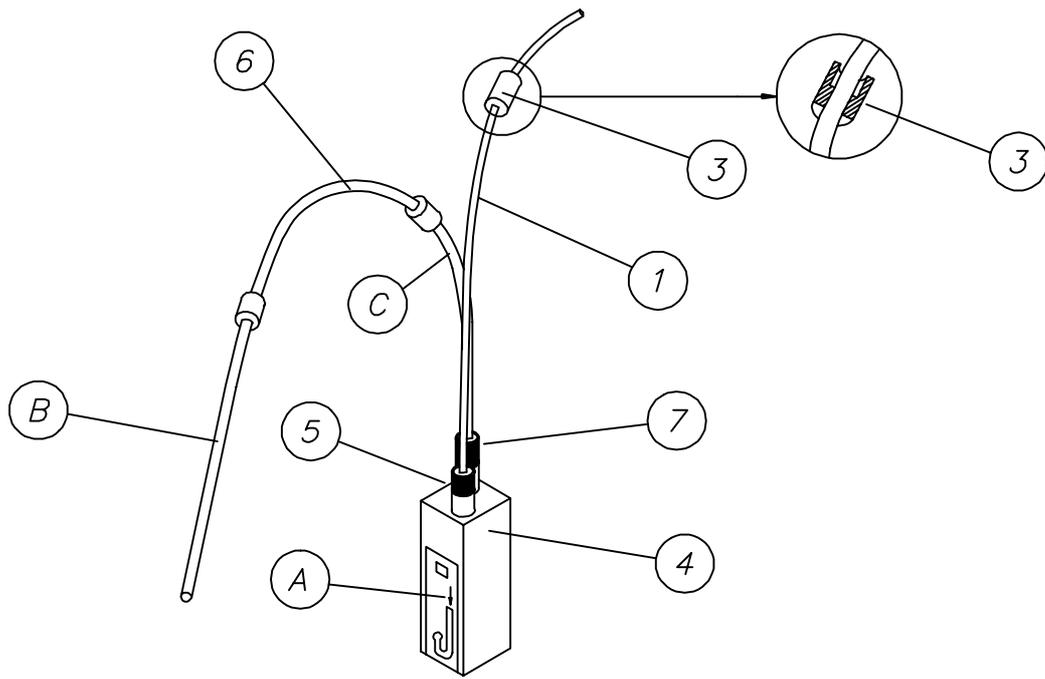

Fig. 2.6
The sipping tubing (figures 2.6 and 2.7) is placed on the cuvette-holder tray. The silicone tube (1), that crosses the case through a steel guiding tube (2), is fixed to this guiding tube by means of a silicone connector (3) and to the cuvette (4) by means of an inlet adapter (5). The teflon tube (6) is connected to the cuvette by an outlet adapter (7), placed in the peristaltic pump (8) and finally connected to the waste outlet (9).